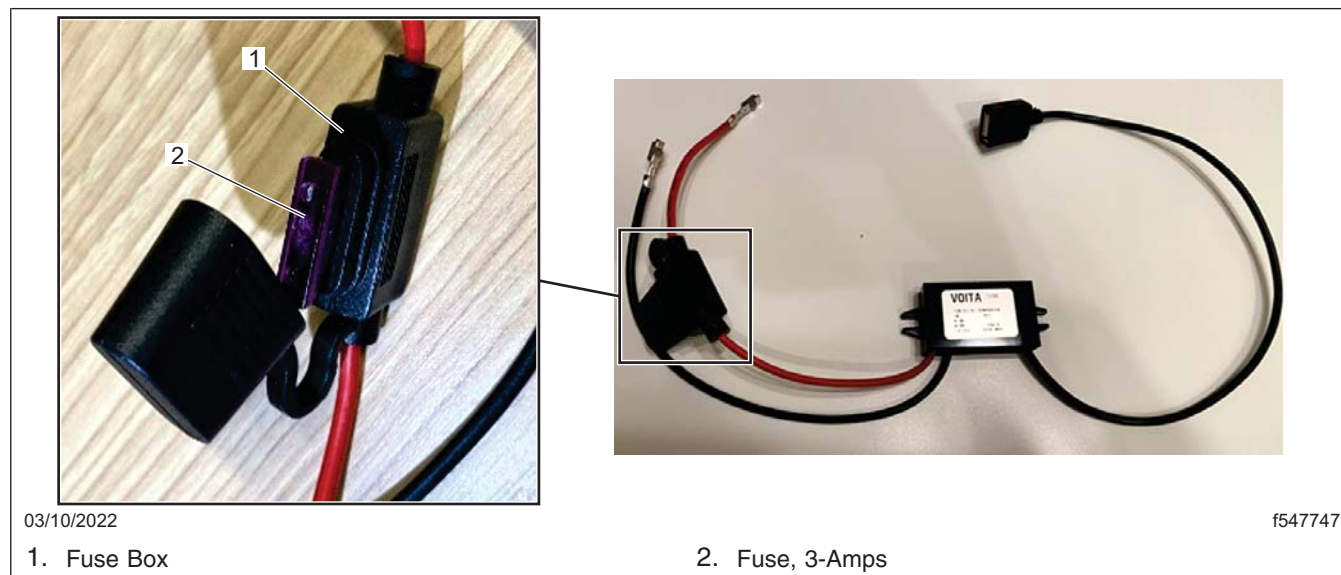

Fig. 11, Voita 12 Volts to 5 Volts DC Converter
3. Open the fuse cover on the Voita 12v to 5v DC converter, and verify that a 3-amp mini fuse is installed. If not already installed, install a 3-amp mini fuse into the fuse housing. See Fig. 11.